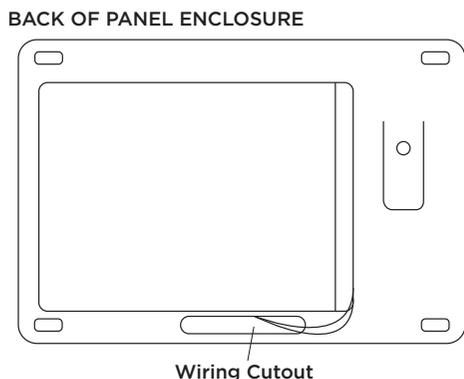

Figure 3: Backup Battery Placement on Panel Enclosure
1. Secure the **battery** to the backside of the **panel enclosure** with the provided **double-sided tape**. Do not cover the tamper location. Refer to Figure 3.